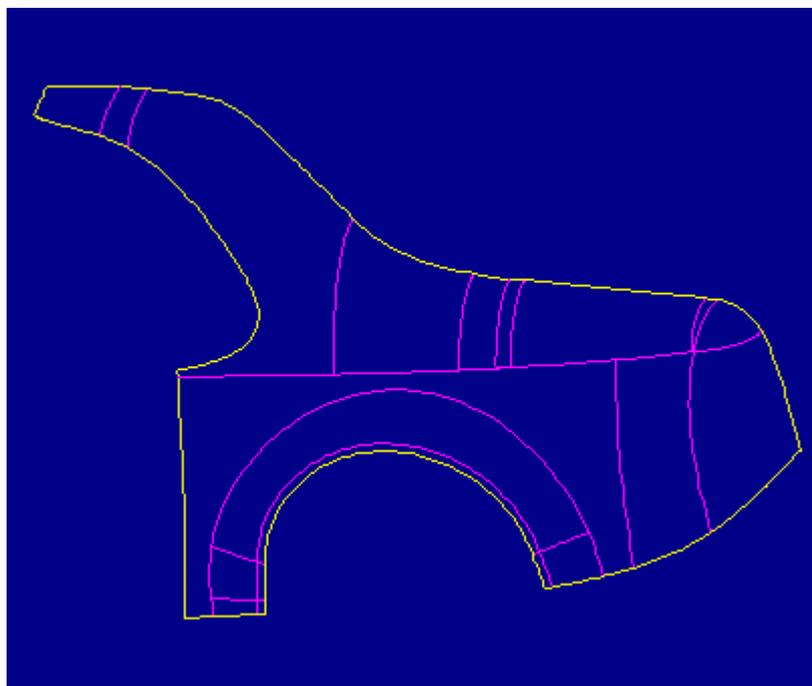

Figure 46
29. In the REDEF IMPT menu select **Fix Bndries**, **FixVertices**. Figure 46 shows that there are no badly aligned vertices present in this quilt.